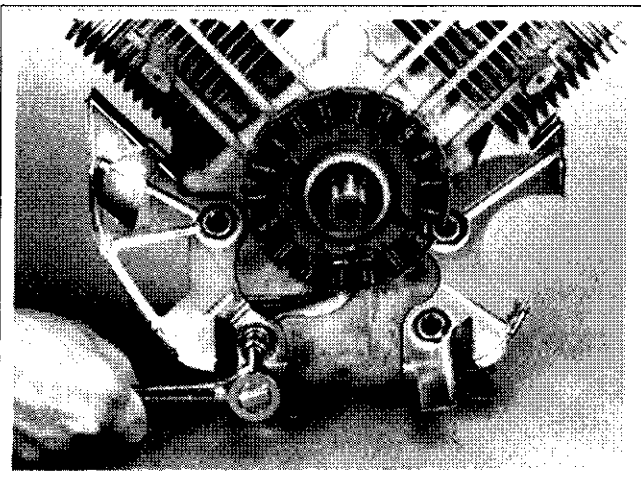

Figure 9-56. Removing Backing Plates.
1. Remove the four flange screws securing the backing plates. See Figure 9-56. Remove backing plates.